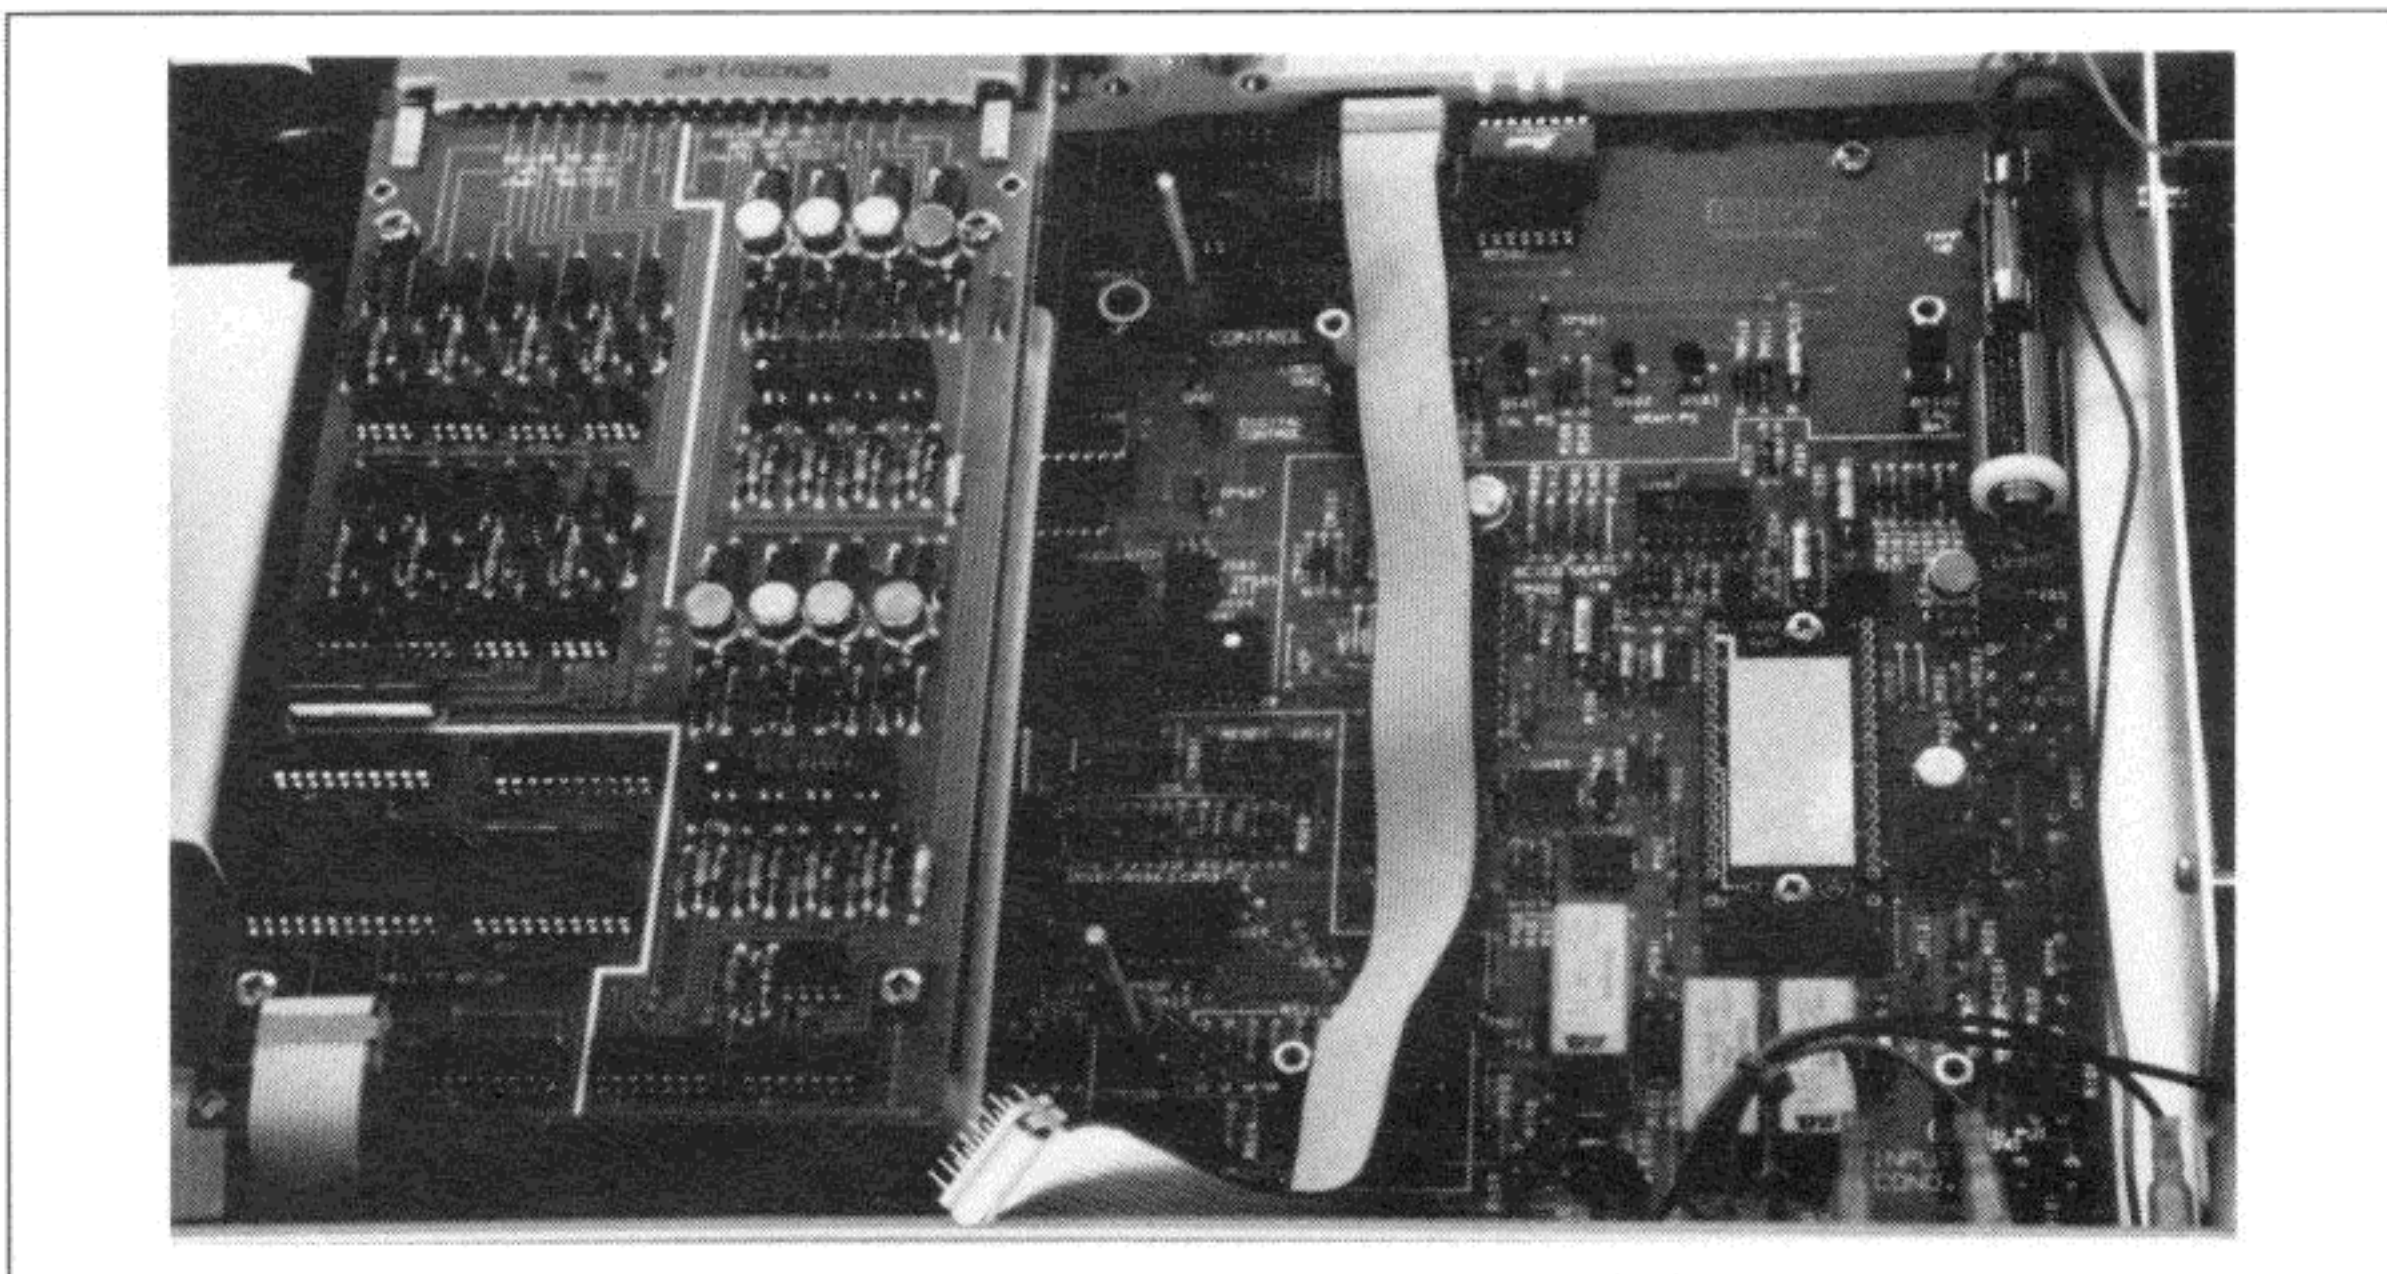

Figure 1-8-15. Slot 0 Option Cable Routing
- o. Route the ribbon cable for the slot 0 option as shown in Figure 1-8-15.